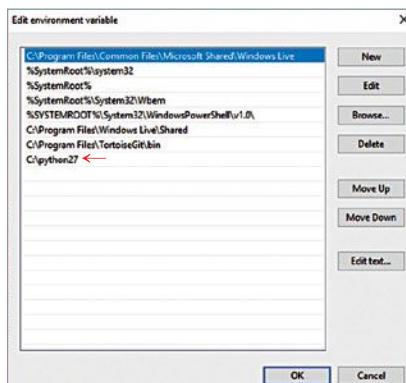

Fig. 9: Path in Windows 8
3. In case of Windows 8 or above, window shown in Fig. 9 will appear. Click on New and add: